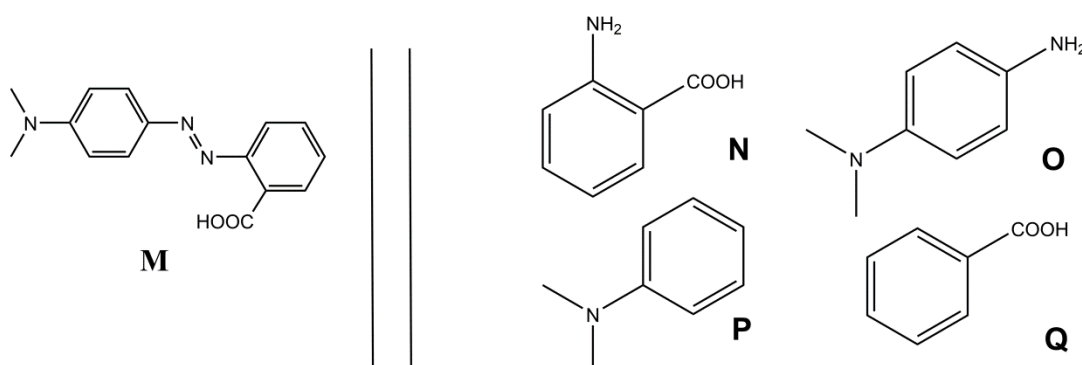

Fig. 1 – Possible reactants for the synthesis of M.
2. M can be synthesized in two steps from simple reactants (Fig. 1). **Choose** among the suggested reactants (N to Q) the ones that can provide M with very high regioselectivity. Sodium nitrite ( $NaNO_2$ ) in cold aqueous hydrochloric acid is used as reagent for the first step of the synthesis.